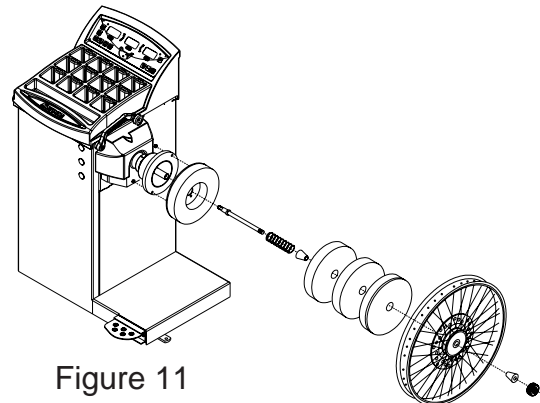

Figure 11
2. Select additional pressure discs if required, and slide them over the spindle, cone and compression spring. When using the laminated pressure disc, always face the laminated side toward the wheel. See Figure 11.